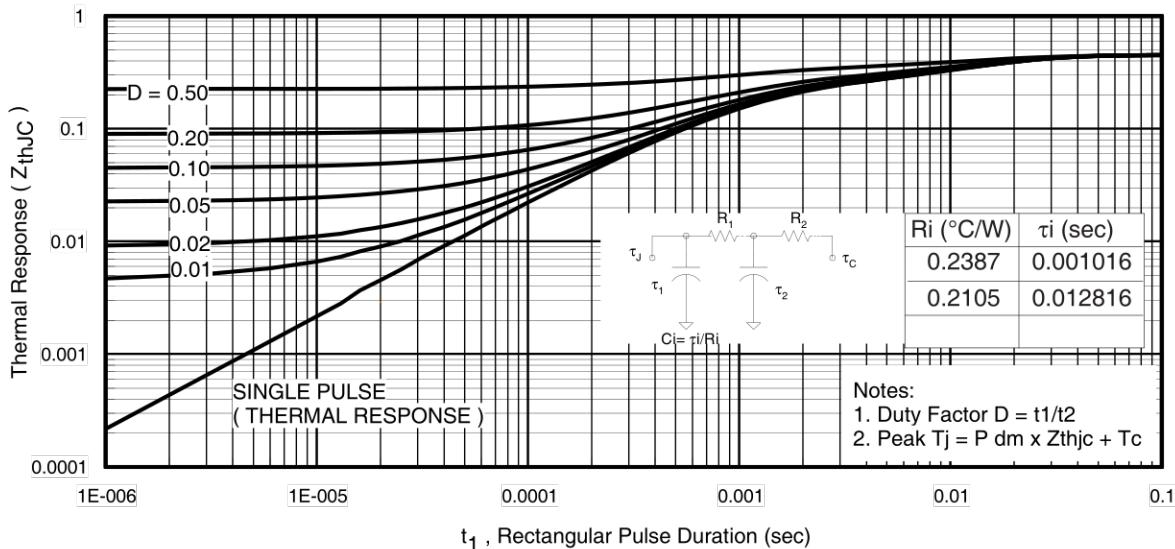
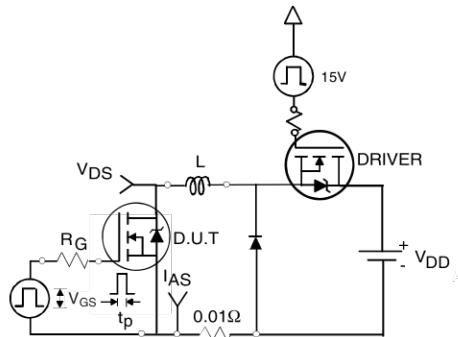

Fig 11. Maximum Effective Transient Thermal Impedance, Junction-to-Case
Fig 12a. Unclamped Inductive Test Circuit
3. Equation below based on circuit and waveforms shown in Figures 12a, 12b.
$Z_{thJC}(D, t_{av})$ = Transient thermal resistance, see figure 11)
- ① Repetitive rating; pulse width limited by max. junction temperature. (See fig. 11).
- ② Limited by $T_{J\max}$, starting $T_J = 25^\circ\text{C}$, $L = 0.26\text{mH}$ $R_G = 25\Omega$, $I_{AS} = 75\text{A}$, $V_{GS} = 10\text{V}$. Part not recommended for use above this value.
- ③ Pulse width $\leq 1.0\text{ms}$; duty cycle $\leq 2\%$.
- ④ $C_{oss\ eff}$ is a fixed capacitance that gives the same charging time as C_{oss} while V_{DS} is rising from 0 to 80% V_{DSS} .
- ⑤ Limited by $T_{J\max}$, see Fig.12a, 12b, 15, 16 for typical repetitive avalanche performance.
- ⑥ This value determined from sample failure population. 100% tested to this value in production.
- ⑦ This is only applied to TO-220AB package.
- ⑧ This is applied to D²Pak, when mounted on 1" square PCB (FR-4 or G-10 Material). For recommended footprint and soldering techniques refer to application note #AN-994.